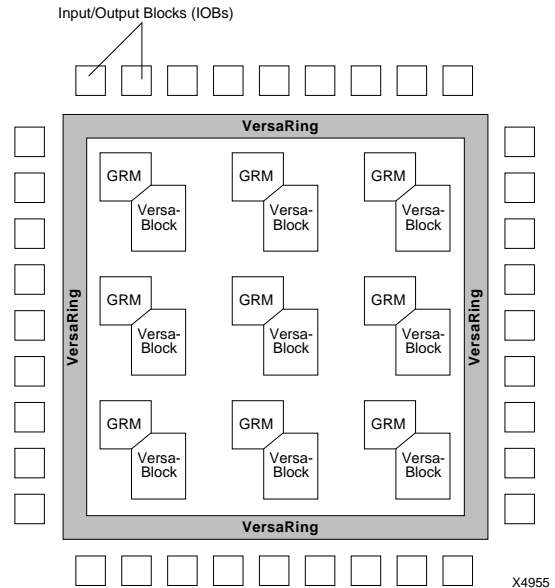
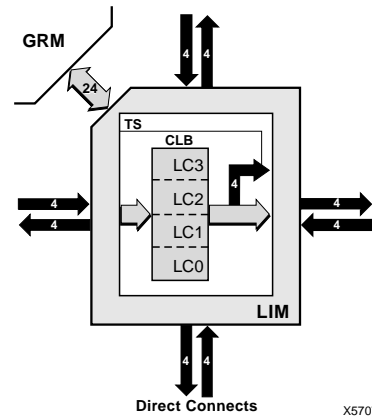
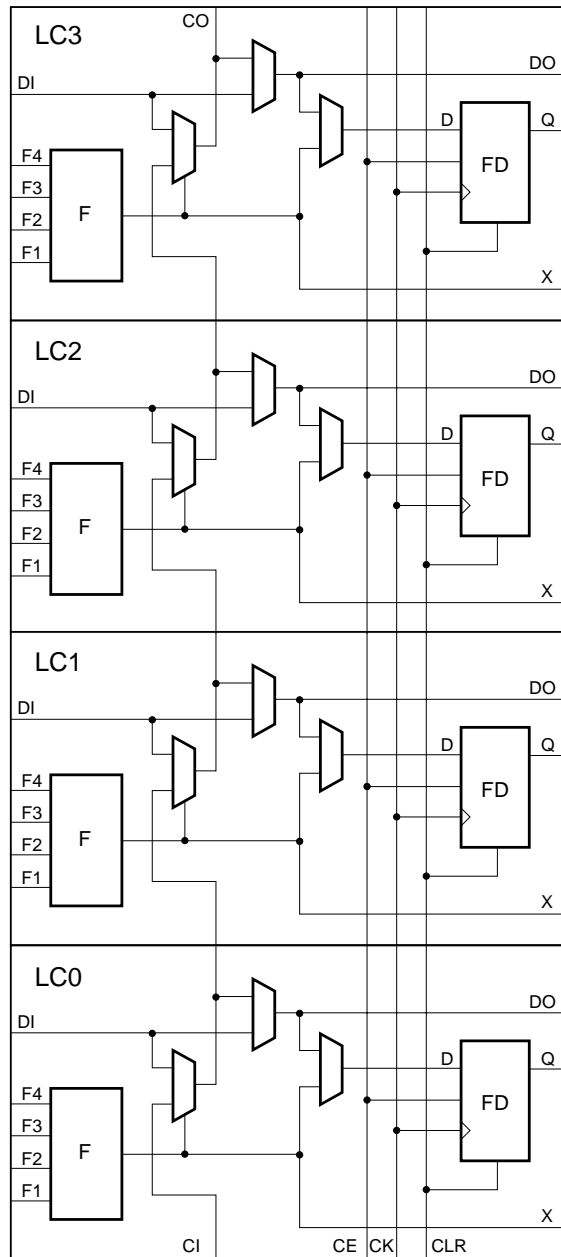

Figure 1: XC5200 Architectural Overview
Figure 2: VersaBlock
Figure 4: Configurable Logic Block
Figure 1 presents a simplified, conceptual overview of the XC5200 architecture. Similar to conventional FPGAs, the XC5200 family consists of programmable IOBs, programmable logic blocks, and programmable interconnect. Unlike other FPGAs, however, the logic and local routing resources of the XC5200 family are combined in flexible VersaBlocks (Figure 2). General-purpose routing connects to the VersaBlock through the General Routing Matrix (GRM).
The XC5200 CLB consists of four LCs, as shown in Figure 4. Each CLB has 20 independent inputs and 12 independent outputs. The top and bottom pairs of LCs can be configured to implement 5-input functions. The challenge of FPGA implementation software has always been to maximize the usage of logic resources. The XC5200 family addresses this issue by surrounding each CLB with two types of local interconnect — the Local Interconnect Matrix (LIM) and direct connects. These two interconnect resources, combined with the CLB, form the VersaBlock, represented in Figure 2.
Figure 4 shows the logic in the XC5200 CLB, which consists of four Logic Cells (LC[3:0]). Each Logic Cell consists of an independent 4-input Lookup Table (LUT), and a D-Type flip-flop or latch with common clock, clock enable, and clear, but individually selectable clock polarity. Additional logic features provided in the CLB are:
Four fast feed-through paths from DI to DO are available, as shown in Figure 4. This bypass is sometimes used by the automated router to rewire internal signals. In addition to the storage element (Q) and direct (DO) outputs, there is a combinational output (X) that is always sourced by the Lookup Table.